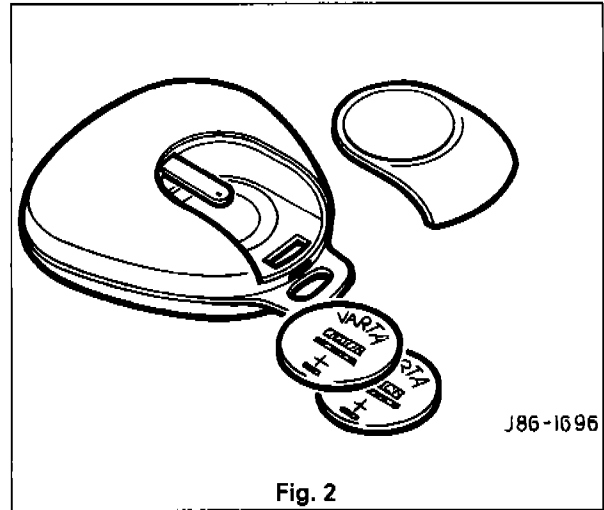

Fig. 2
- Remove batteries (2 Fig. 2) and discard.
- Fit two new batteries making sure the polarity is as shown in Fig 2.